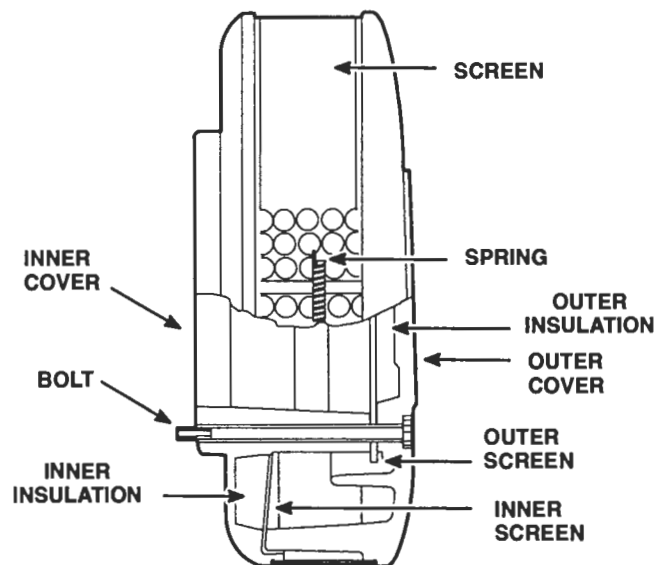

Figure 2. Turbocharger Air Inlet Silencer
5. Reassemble the silencer (Figure 2.)